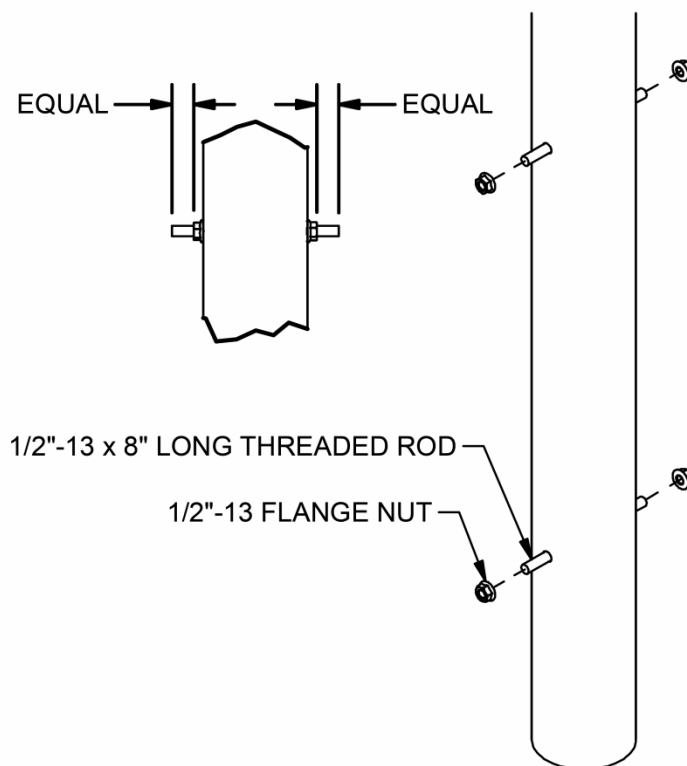

FIGURE: 3
1. Install two anti-rotation rods into the bottom side of the lower foul pole. Center rods within the pole and install 1/2" flange nuts on both ends (see figure 3).